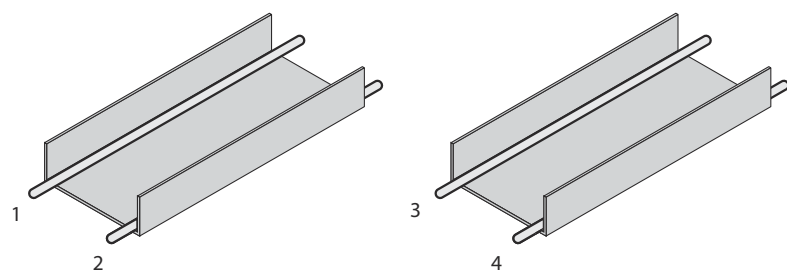
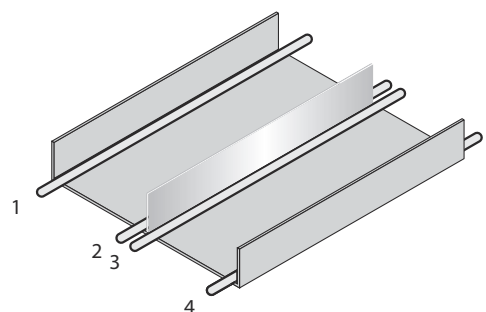

Figure 3: Ideal laying – Place cables in different cable channels
Figure 4: Alternative laying – Separate cables with metallic separators
- ▶ Cables in groups 1, 2, and 3, 4 must be routed in different cable channels or metallic separators must be used, see figure 3, page 30 and see figure 4, page 30. This applies particularly where cables of devices with a high level of radiated emission, such as frequency converters, are laid parallel to sensor cables.